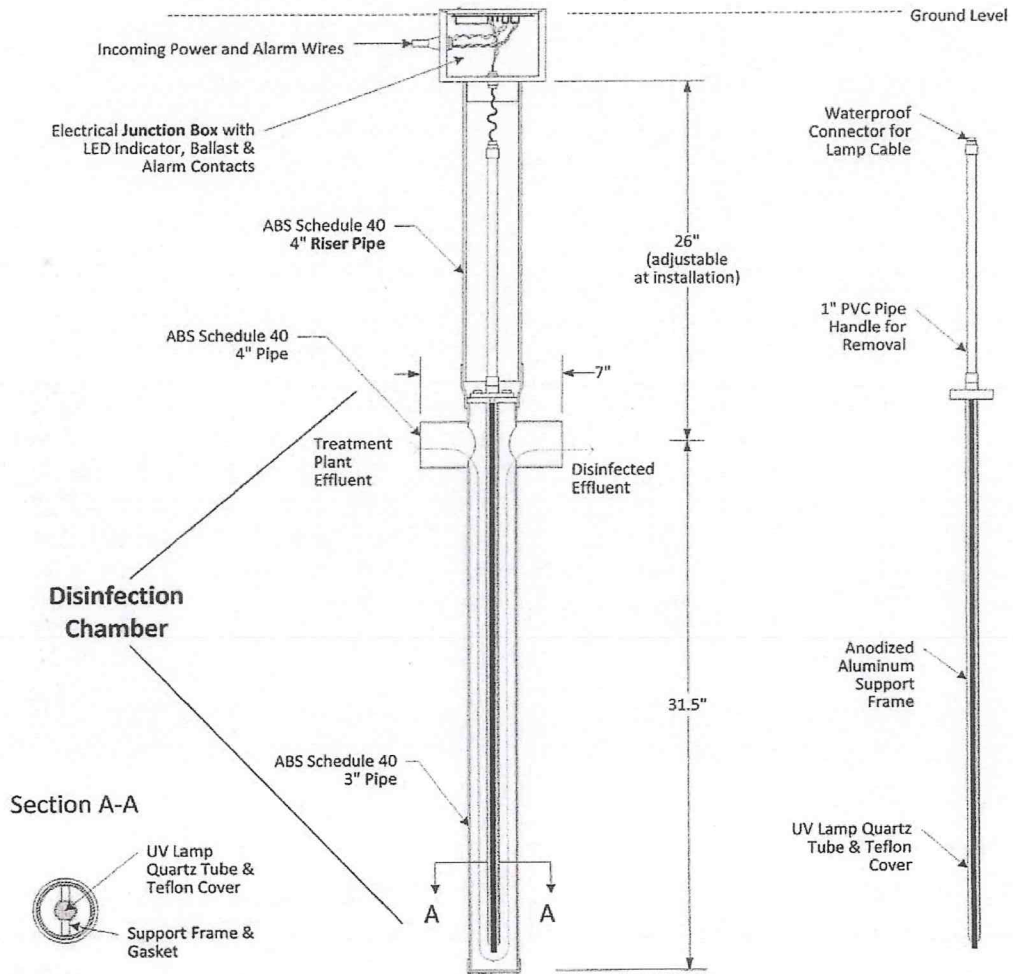

Figure 1
Note: *Figure 1* indicates that the electrical junction box should be placed at ground level. If this should pose a problem with lawn mowers, etc., then the junction box could be placed below grade in an irrigation valve box. Another possibility is to use a hollow artificial rock to cover the top of the junction box.
- a. Use the 4-inch ABS inlet pipe connection to the pretreatment unit as a reference point. See figure 1.